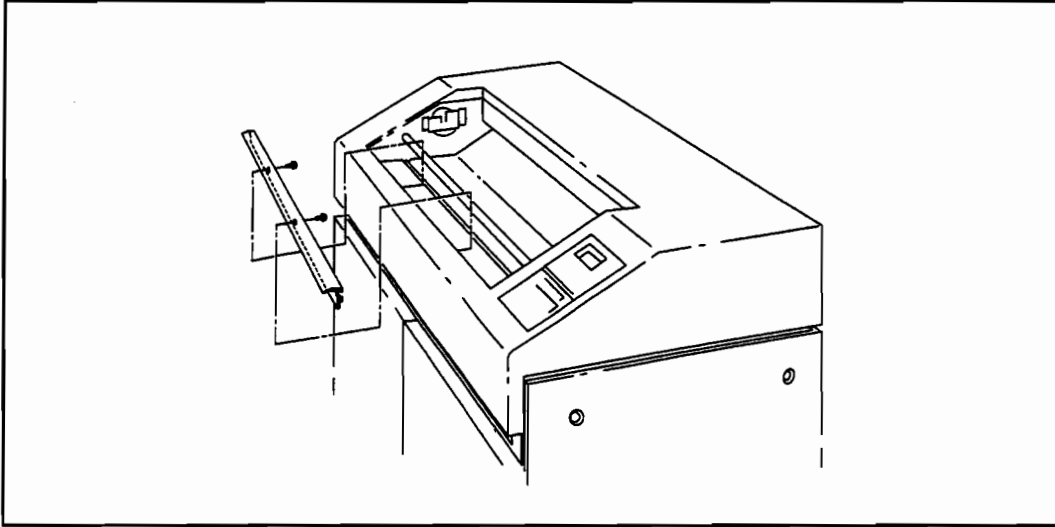

Figure 3-15. Manual Cutter Guide
1. Position the manual cutter guide on the plotter top cover. (See Figure 3-15).